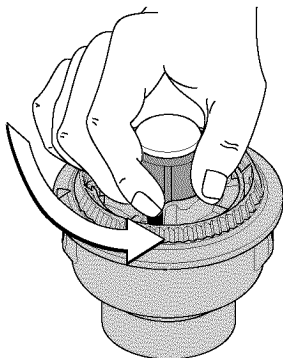

Fig. 24
1. Hold the outer spool, and unscrew the bump knob counterclockwise (Fig. 24).